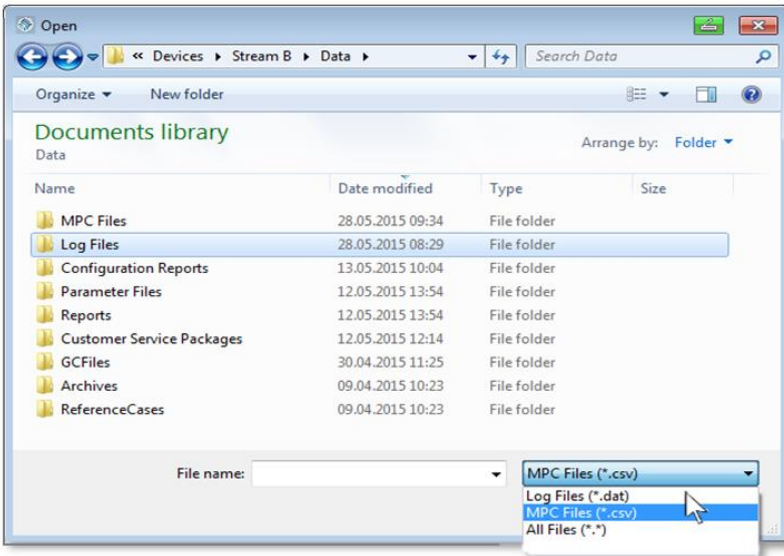

Figure 19-2 Log and MPC file formats
- ✓ A new window will open, allowing you to select the files you would like to view. Please see Figure 19-2.
You must select the correct file format in the drop down menu, as shown in Figure 19-2.